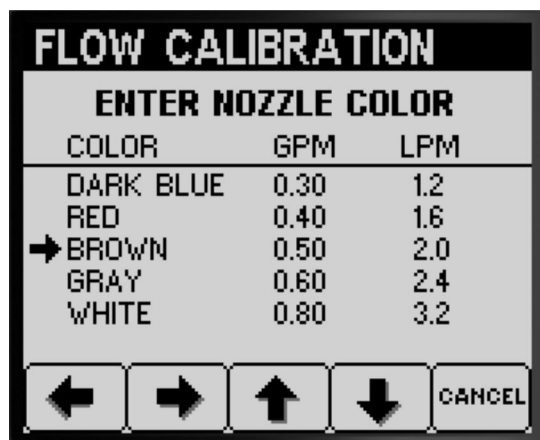

Figure 44
- For machines with nozzle colors that match the flow rates described in Figure 44, select the color of nozzles installed at the active spray position.
- For machines with nozzle colors that **do not match** the flow rates described in Figure 44, select the flow rate (gpm or lpm) of nozzles installed at the active spray position.
- Press button 2 to advance to the next step (Figure 44).